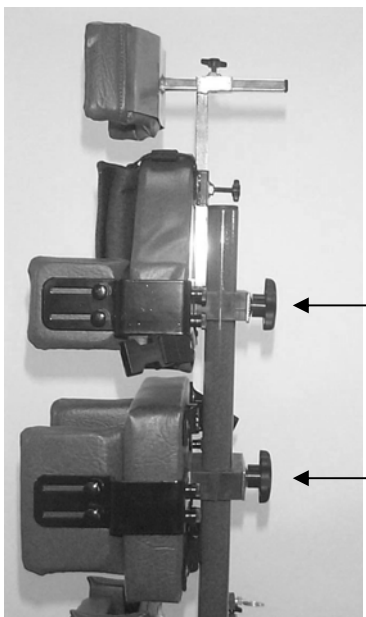
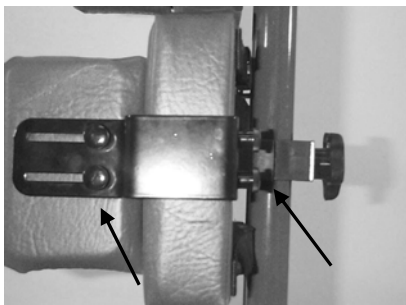

Figure 7
Figure 8
***Chest and Hip Support Pads:*** Perform individual adjustments for height up or down on the center mast by loosening the large black adjustment knob on the back of each pad and sliding the pad to the position desired (*Figure 7*). Lateral supports can be adjusted by loosening the small black adjustment knobs on the back of the lateral support bracket. Slide the brackets to a narrower or wider setting securing the child's side-to-side stability and position. Lateral supports can be depth adjusted by loosening the small black adjustment knobs on the side of the bracket and sliding the pad front or back to the desired position (*Figure 8*).